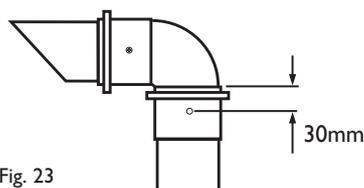

Fig. 23
13. Mark and drill the 60\O exhaust, using a 2mm bit, as shown in Fig. 23. Complete the installation of the 60\O exhaust, securing in the brackets.